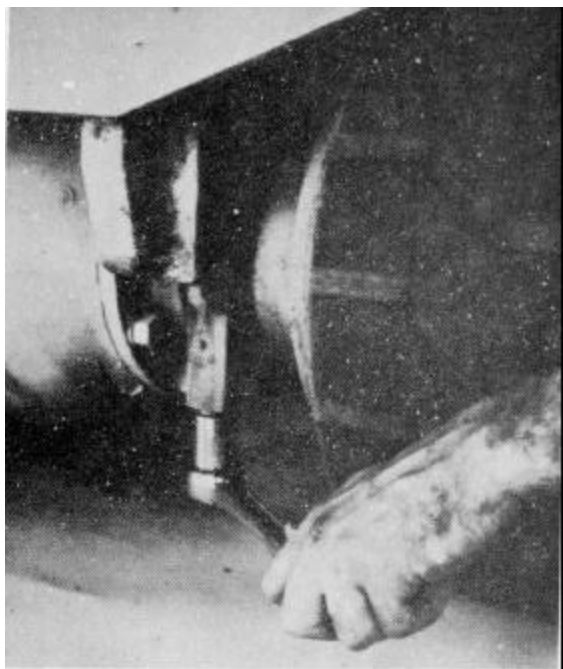

Figure 5-10
15. Remove the (2) bolts from each steer axle trunnion block using a one inch wrench (Fig. 5-10). Remove the two trunnion blocks from the vehicle.